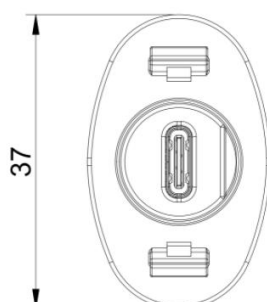

Fig.11-1 RS485 interface of inverter(unit: mm)
1).Insert the WiFi module in Figure 11-1 into the WiFi terminal of the inverter turn on the mobile wifi, select the WiFi module hotspot, and enter the password: 12345678(starts with EAFI module).Open the mobile browser and enter 10.10.10.1 to enter the WiFi module configuration page.The method is shown in Fig 11-2.